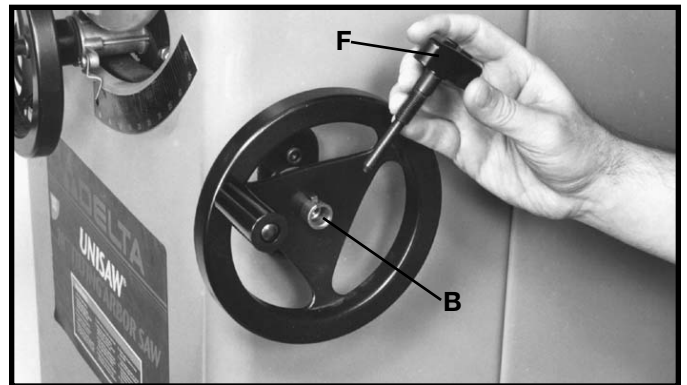

Fig. 7
4. Install lock knob (F) Fig. 7, into threaded end of the shaft (B). Hand-tighten lock knob at this time. (**Do not over tighten - see "Blade Raising Mechanism"**)